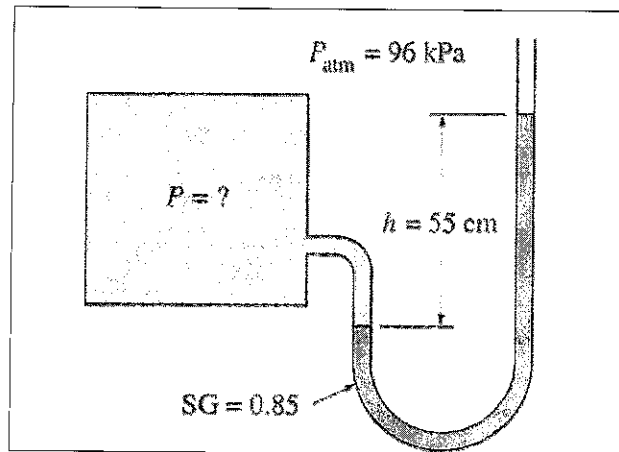

Figure A2 (c): Manometer / *Rajah A2 (c): Manometer*
- (c) A manometer is used to measure the pressure of a gas in a tank. The fluid used has a specific gravity of 0.85, and the manometer column height is 55 cm, (as shown in Figure A2 (c)). If the local atmospheric pressure is 96 kPa and density of water is 1000 kg/m^3 , calculate the absolute pressure within the tank.